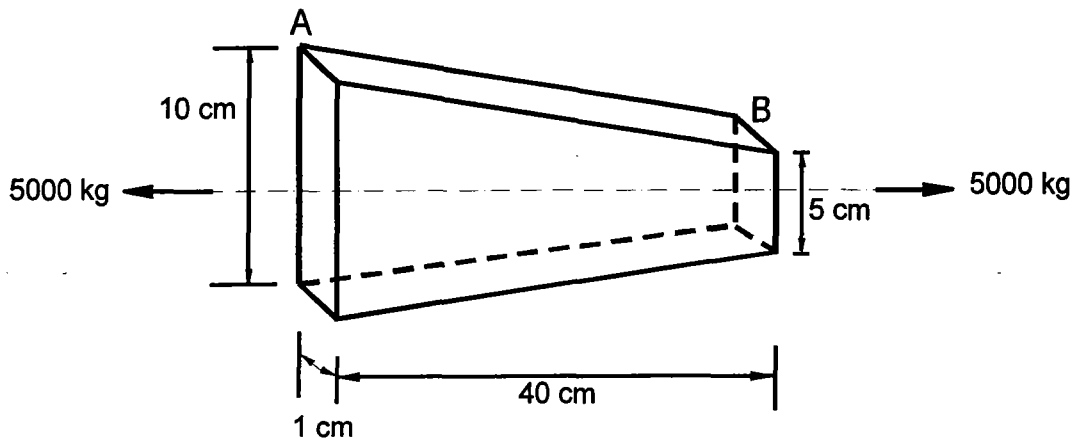

Figure 6 / Rajah 6
- (b) A steel flat plate AB of 1cm thickness tapers uniformly from 10cm to 5cm width in a length of 40cm as shown in Figure 6. From first principles, determine the elongation of the plate, if an axial tensile force of 5000kg acts on it. Given $E = 2 \times 10^6 \text{ kg/cm}^2$.